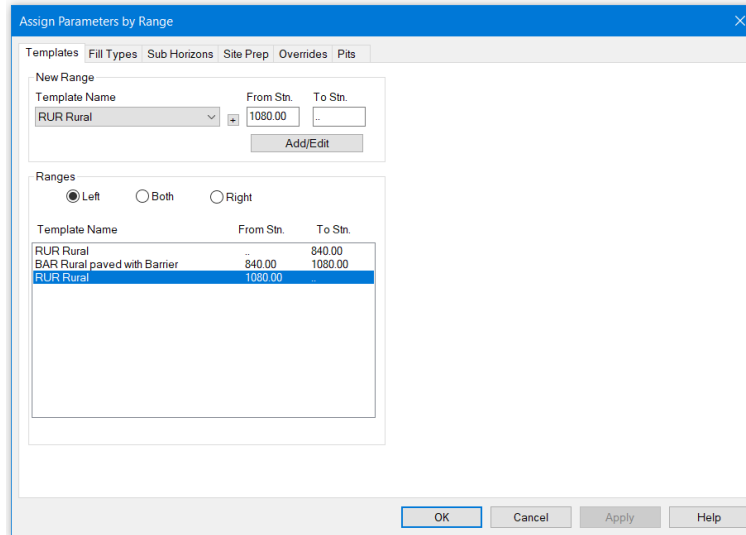

Figure 19-3: Assigning a Template to a Station Range
13. *Home | Assign by Range* to open the *Assign Parameters by Range* dialogue box (Figure 19-3). Select the *Templates* tab.